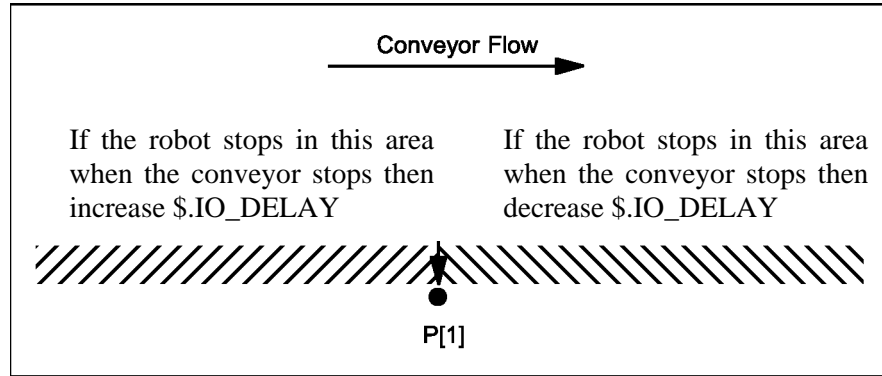

Fig. 5.4.1 Modifying \$LNCFG\_GRP.\$IO\_DELAY
4. Verify that the robot is lined up at the correct position (P [1]). If the robot is not lined up with P [1], then modify \$LNCFG\_GRP.\$IO\_DELAY as shown in Fig. 5.4.1 .